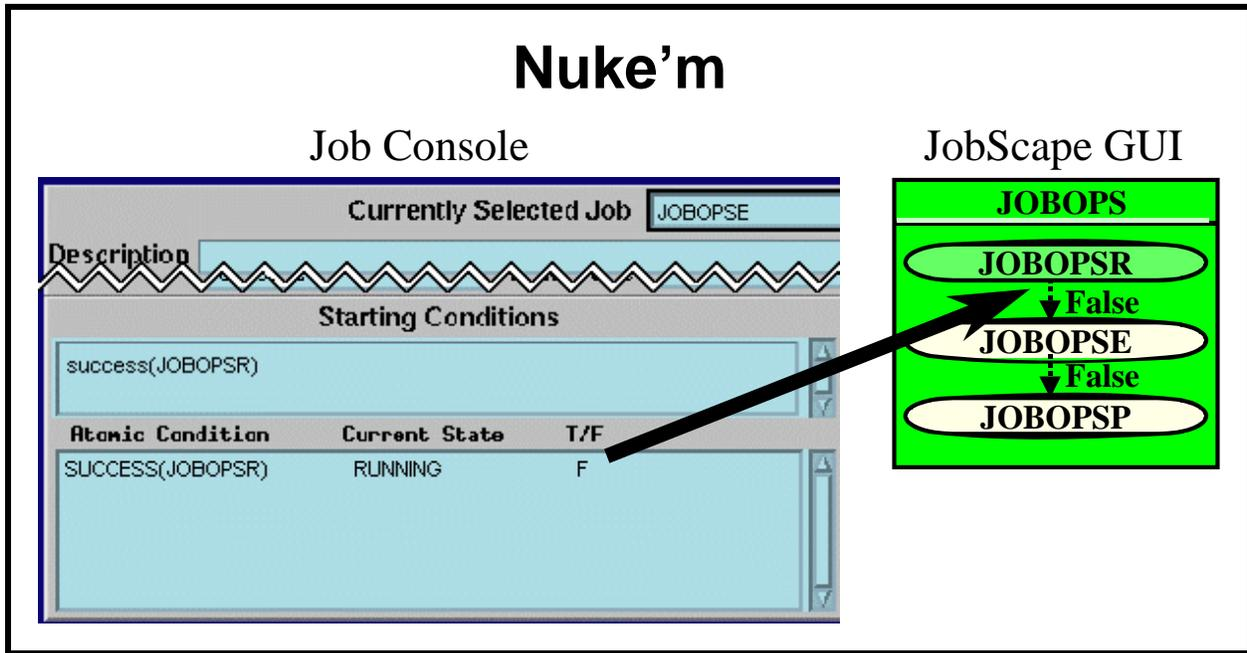

Figure 65. Atomic Conditions and Upstream Dependencies
- Figure 65 shows how atomic conditions relate to job dependencies as displayed using JobScape. (In this case JOBOPSR is an atomic condition for JOBOPSE.).